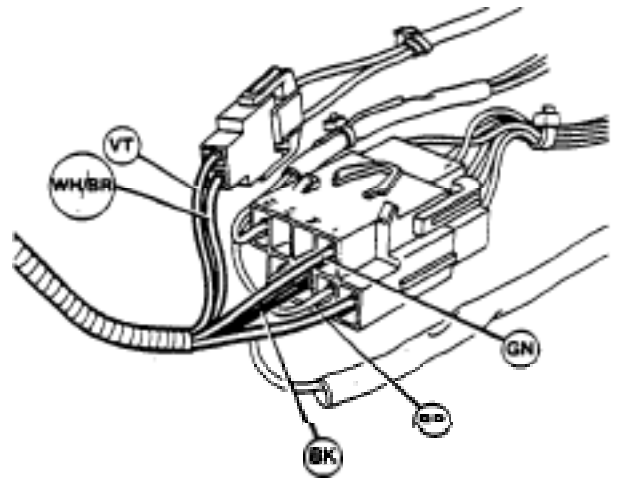

Figure 3. 8-pin and 2-pin connectors
3. Unplug the 8-pin and 2-pin connectors. Disconnect the following leads in the male connectors (see Figure 3):